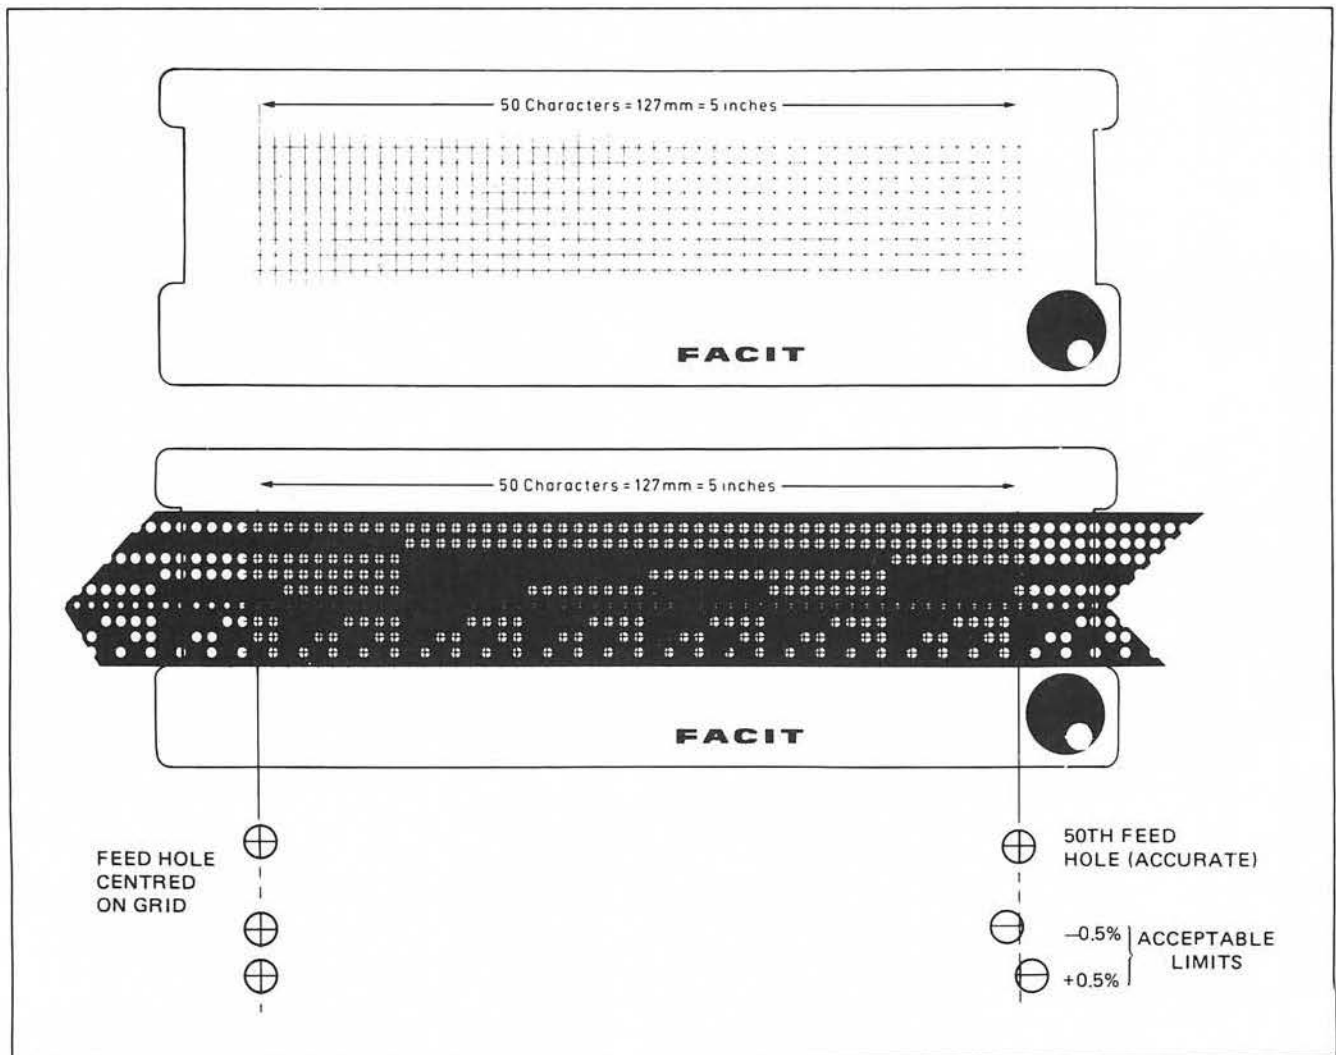

Fig. 1.2 Check Intercharacter Spacing
The accuracy of punching can be checked by using the Facit template part no. 1114 00 50-00/0 as shown in Fig. 1.2. It is recommended that this check is carried out approximately every 50th tape reel used.
- (1) Lay the punched tape on the template as shown in Fig. 1.2, with a feed hole accurately centered on the leftmost vertical line.
- (2) Examine the 50th feed hole on the rightmost vertical line. If this line is visible within the hole, (i.e. within $\pm 0.5\%$), the punch accuracy is acceptable.
- (3) If the vertical line is not visible (i.e. outside $\pm 0.5\%$) the punch mechanism requires servicing.